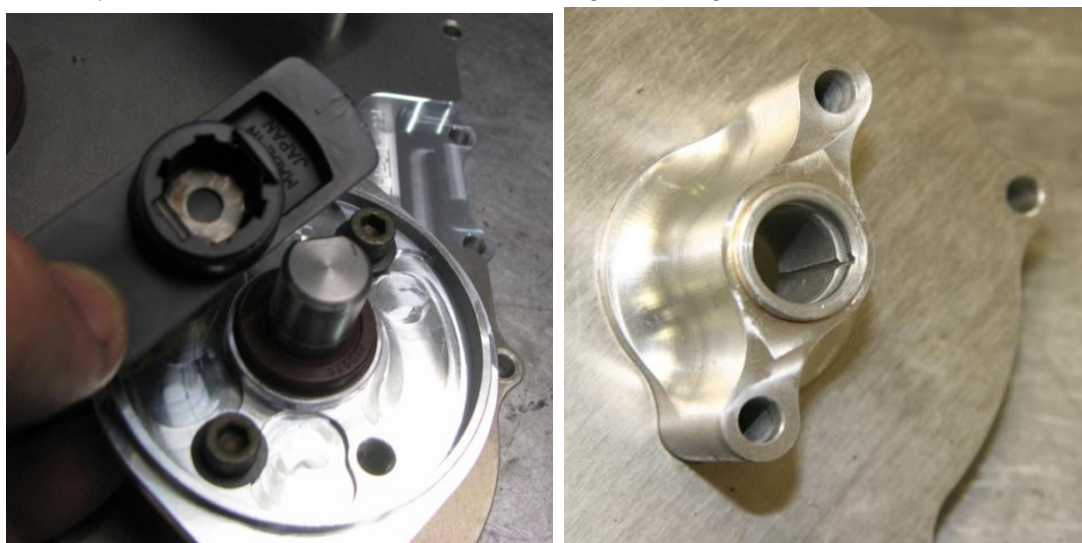

Figure 148 – New Distributor Shaft Bush Fitted – nopic x 1
- Glue the distributor rotors to the shafts using 5-minute Araldite mixed with a suitable filler (such as cotton flock) as shown in Figure 148.
- New bushes must be fitted to the distributor housings as shown in Figure 148. Distributor posts must be generously lubricated with Nulon L90 or grease.